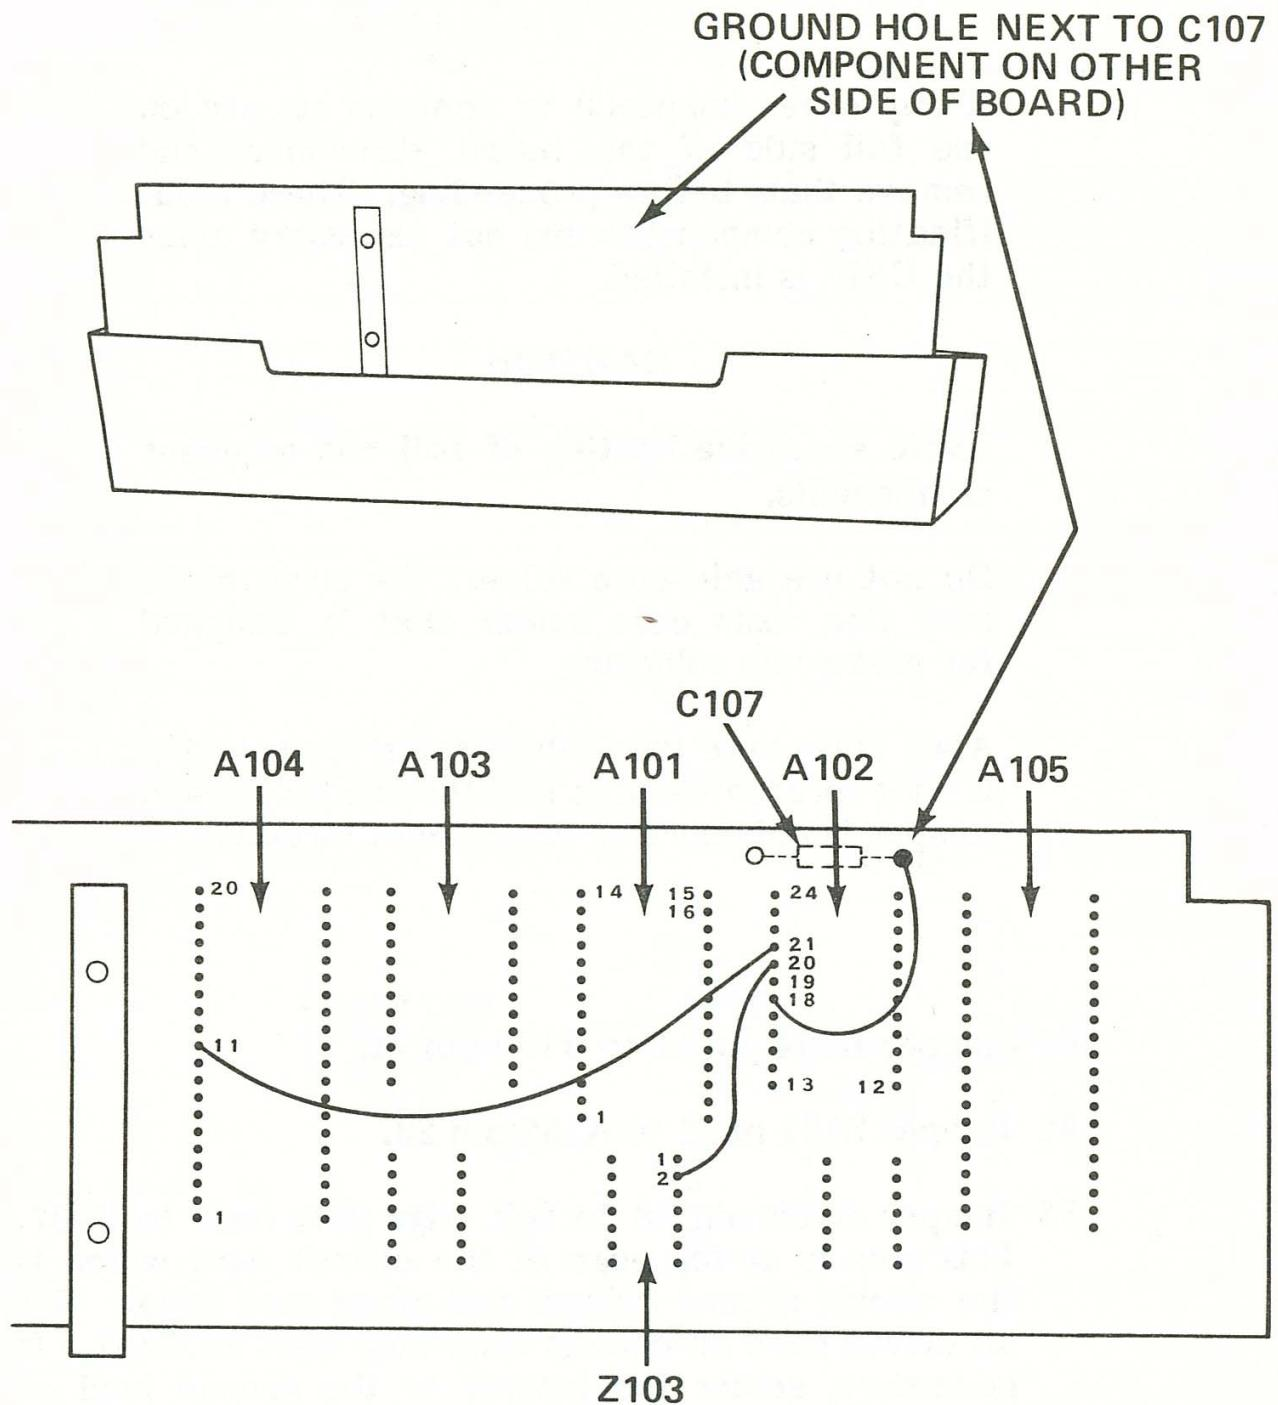

Figure 2-4. Jumper Wire Installation
17. Install the three jumper wires as follows. Refer to figure 2-4 for detailed instructions.